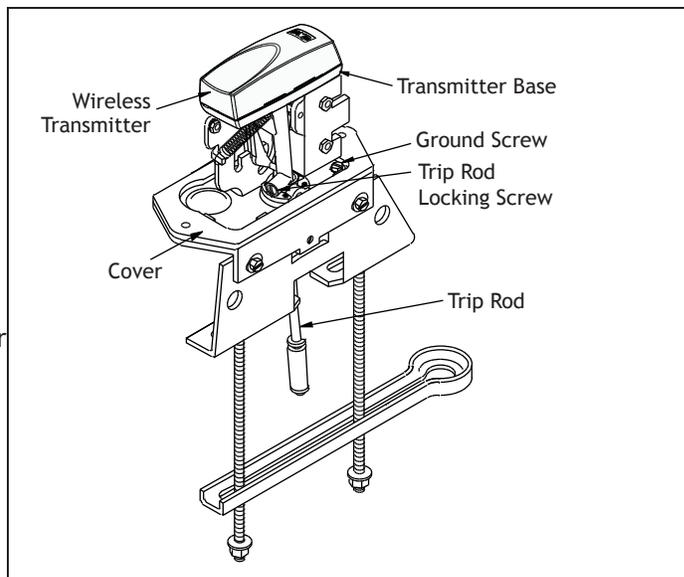

Figure 1: 1182 Parts Location
3. Loosen the locking screw that holds the trip rod in place and adjust the rod length (see Fig. 1). When adjusted properly, the rod should extend past the valve screw, but not so far that it contacts the clamp bar. Tighten the locking screw to hold the trip rod in place.